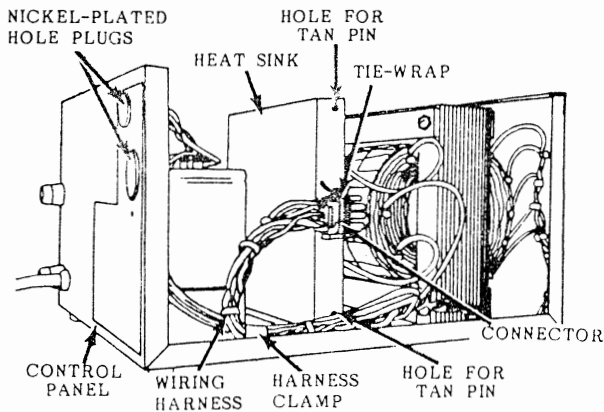

FIGURE 10
**02.17** The harness is secured to the chassis with a cable clamp (Figure 10). Loosen the screw and nut slightly to allow movement of the harness.
**02.24** Align the two tan-colored PBBU pins with the two holes in the heat sink (Figure 10). Press the pins into the holes until they catch.